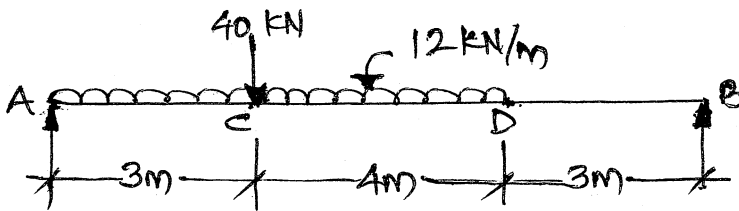

Fig. 3
- Draw SFD and BMD for the simply supported beam shown in Fig. 3. Show all important values.